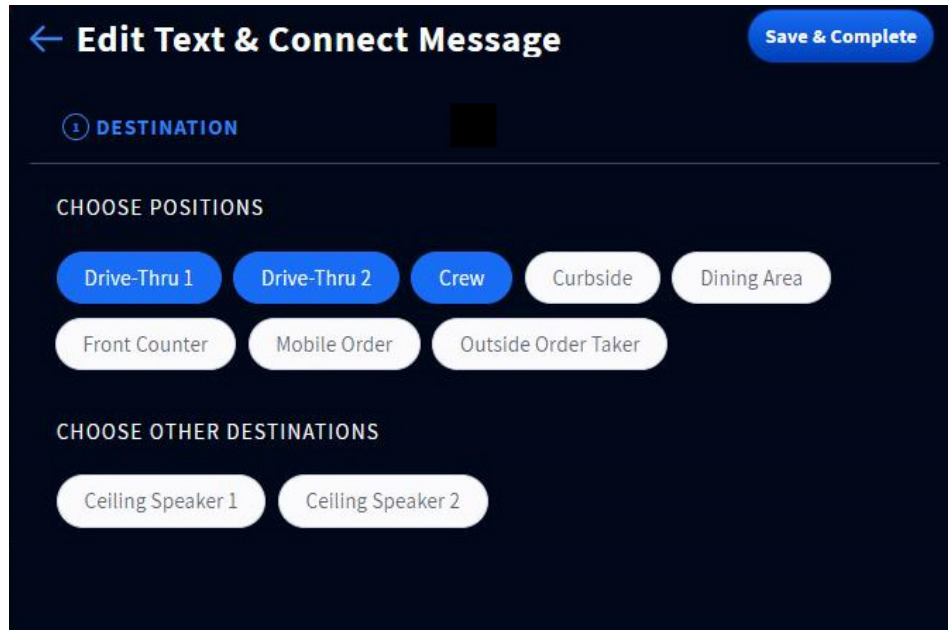

Fig. 8.10
3. This opens the Edit Text & Connect Message page (Fig. 8.10). Choose the crew positions listed to target a specific group of headset users by tapping on it. The selected positions change to blue.
- For example, Fig. 8.10 shows Drive-Thru 1, Drive-Thru 2, and Crew selected. So, only these three headset groups will receive messages sent with the Text & Connect feature.